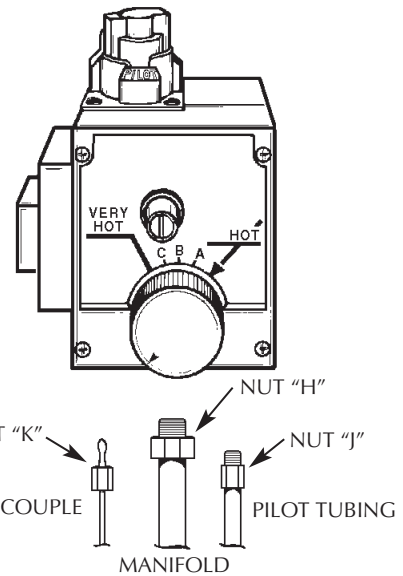
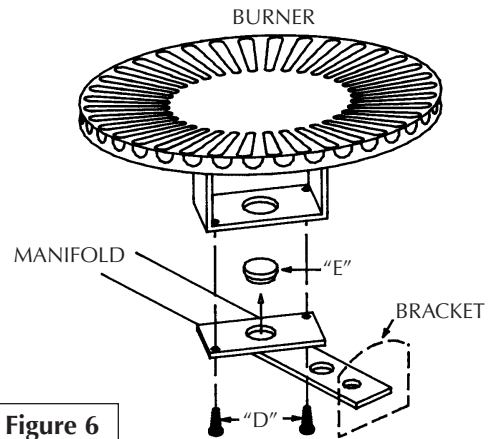

Figure 5
Figure 6
- Step 3. Remove burner assembly from water heater and control by loosening  $\frac{3}{4}$ " nut "H" holding burner assembly to control. (See Figure 5, page 14). Loosen pilot tube nut "J" and thermocouple nut "K" at control.
- Step 4. Remove screws "D" disengaging manifold from burner. (See Figure 6, page 14)
- Step 5. Remove orifice "E" (See Figure 6, page 14) using  $\frac{3}{8}$ " wrench. Install orifice marked "L.P." found in the bag into manifold. Tighten securely. Secure burner to manifold with screws "D".
- Step 7. Make sure all connections are tightened securely, and reinstall burner assembly into water heater. Position end of the manifold inside bracket as shown in Figure 6 on page 14. Reinstall manifold into control and tighten  $\frac{3}{4}$  inch nut ("H") securely. Recheck to see that end of manifold is still inside bracket as shown in Figure 6 on page 14. Reinstall pilot tubing and thermocouple into control. (See Figure 5, page 14)
- Step 14. Push in control knob all the way and hold down. Immediately light the pilot with a match. Continue to hold control knob in for about one (1) minute after the pilot is lit. Release knob and it will pop back up. Pilot should remain lit. If it goes out, repeat steps 9 through 12.
- Step 15. Check for gas leaks with only pilot flame burning using a soapy water solution, not a match or open flame. Check for gas leaks at fittings "F" and "G" (See Figure 7, page 14) and at fitting "J" (See Figure 5, page 14).
- Step 19. With a soapy water solution, not a match or open flame, check for gas leaks at gas connection "H". (See Figure 5, page 14). If gas leak occurs, turn off immediately by shutting off gas cock at inlet to control, or by turning gas control knob (↻) to "PILOT" pushing down and turning to "OFF". Repair gas leak as necessary, and repeat steps 9 through 19.